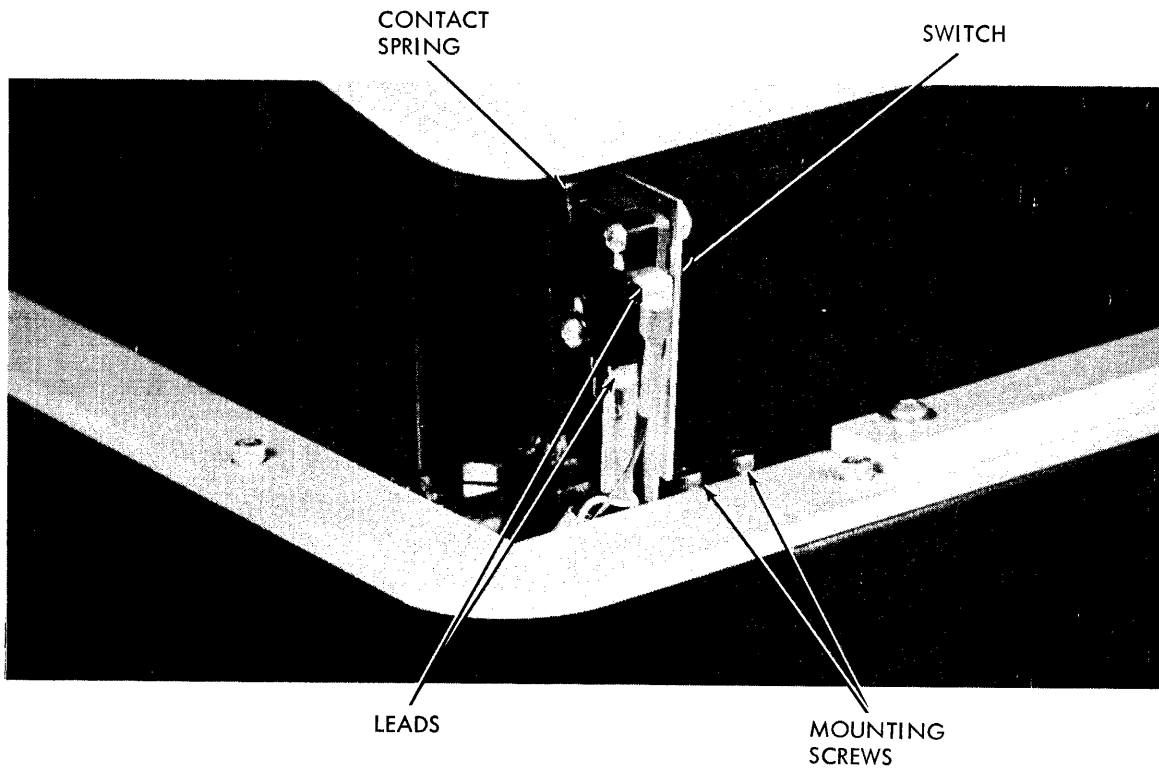

Figure 9-19. Stacker Full Switch
- b. Disconnect two leads from stacker full switch, figure 9-19.